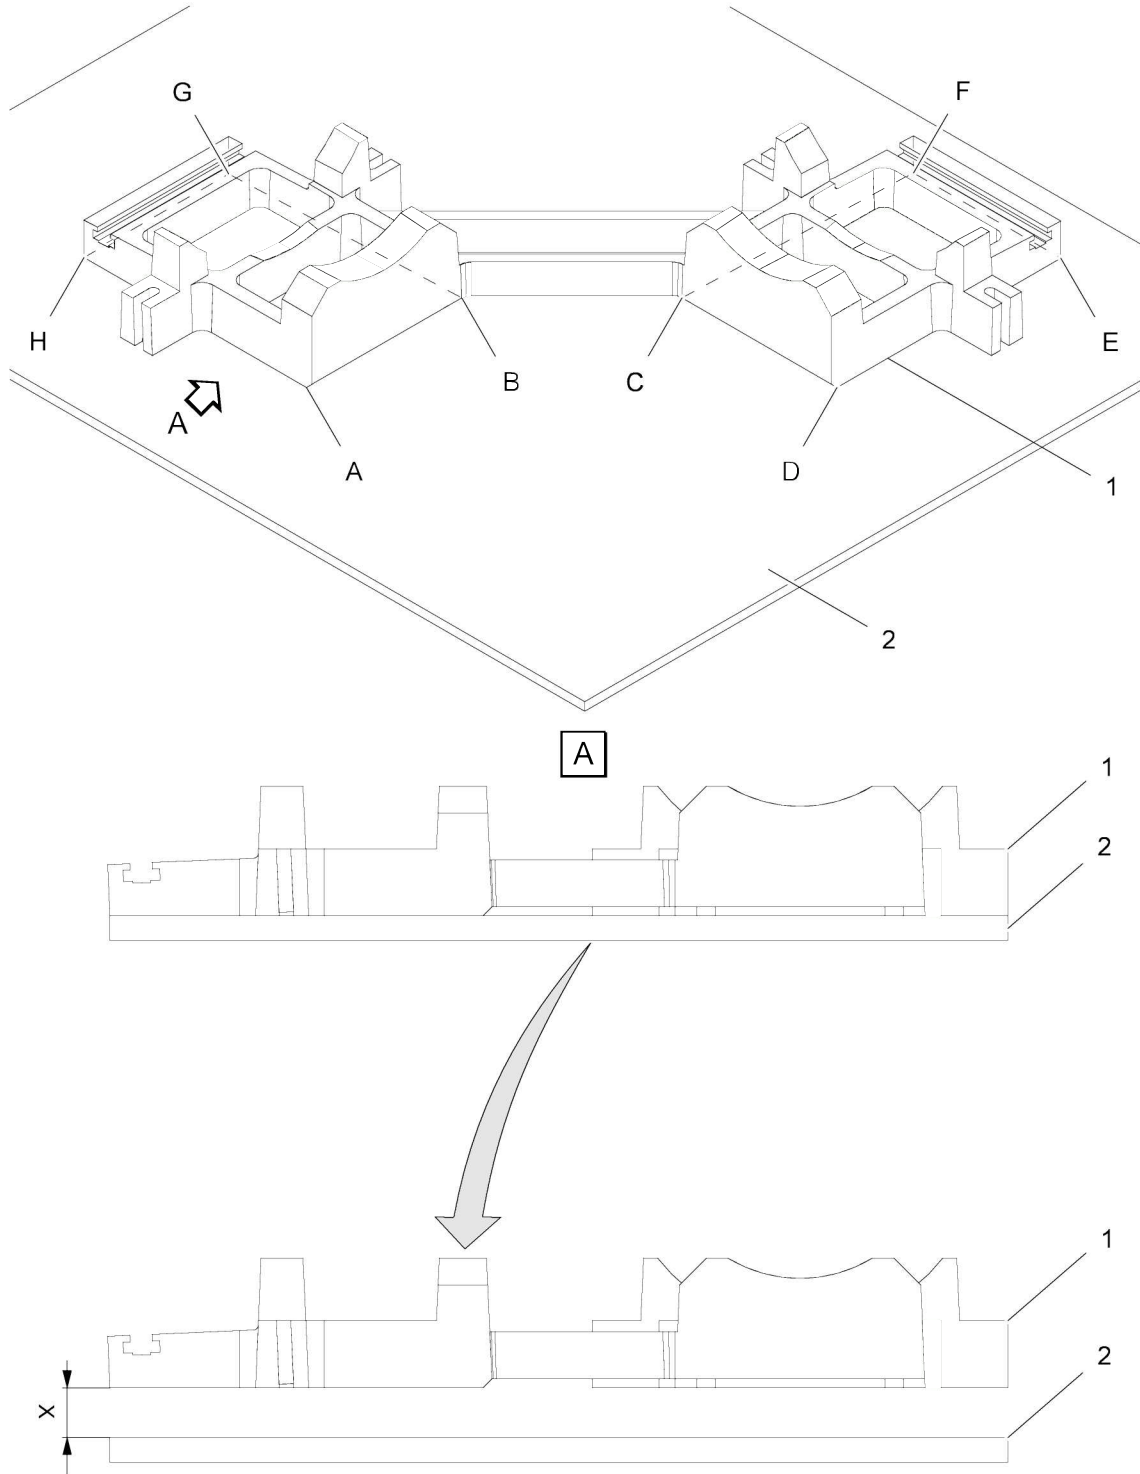

Figure 1
- 4.1.1. Clean the Main Rotor Rigging Device (Figure 1). Refer to Cleaning of mechanical parts - Cleaning MTC 20-04-01-401 .